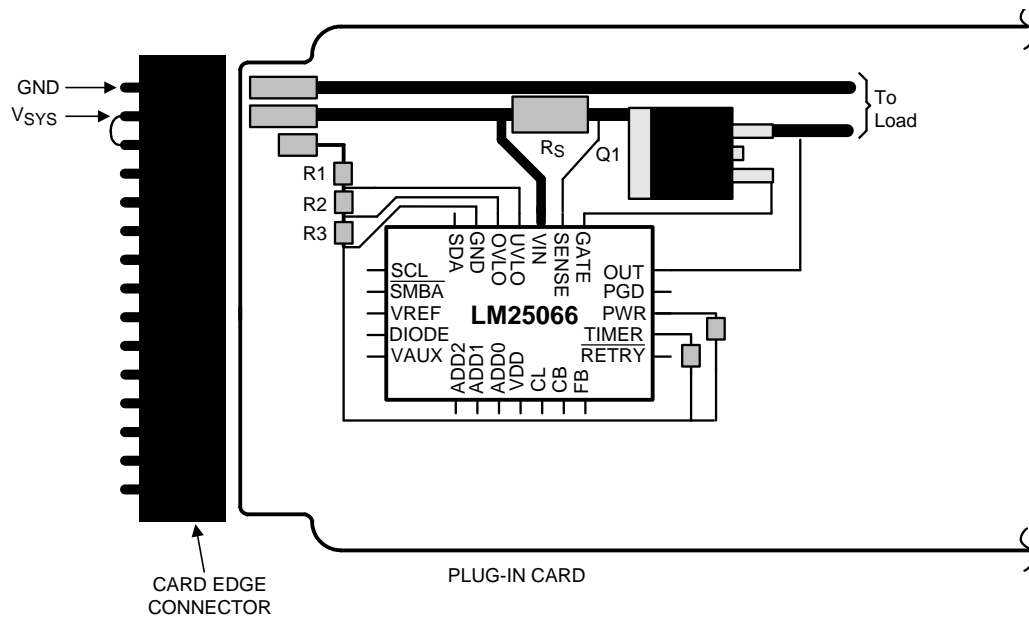

Figure 56. Recommended Board Connector Design
- The board's edge connector can be designed such that the LM25066 detects via the UVLO/EN pin that the board is being removed and responds by turning off the load before the supply voltage is disconnected. For example, in Figure 56, the voltage at the UVLO/EN pin goes to ground before V_{SYS} is removed from the LM25066 because of the shorter edge connector pin. When the board is inserted into the edge connector, the system voltage is applied to the LM25066's VIN pin before the UVLO voltage is taken high, thereby allowing the LM25066 to turn on the output in a controlled fashion.